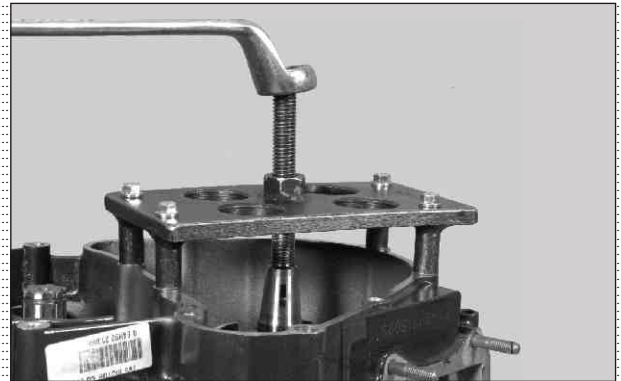

Fig. 3.95
- Using special tool separate the crankcase assembly by pulling the crankcase complete L. (Fig. 3.95)